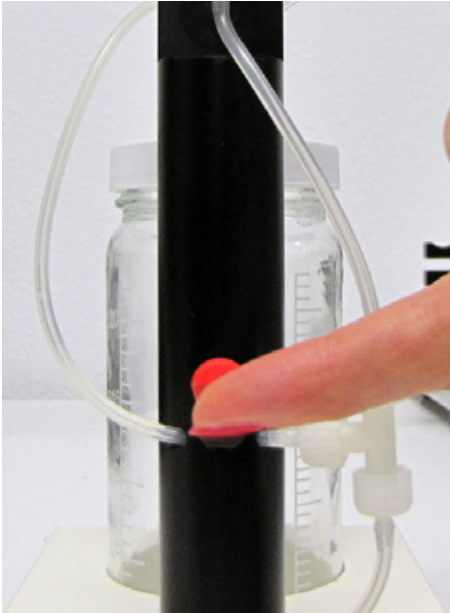

Fig. 26—Lift the spring-loaded pinch valve to allow the waste fluid to be evacuated into the reservoir
3. Gently lift the pinch valve and hold it up until the liquid in the cuvette and line tubing is completely evacuated (**Fig. 26**).